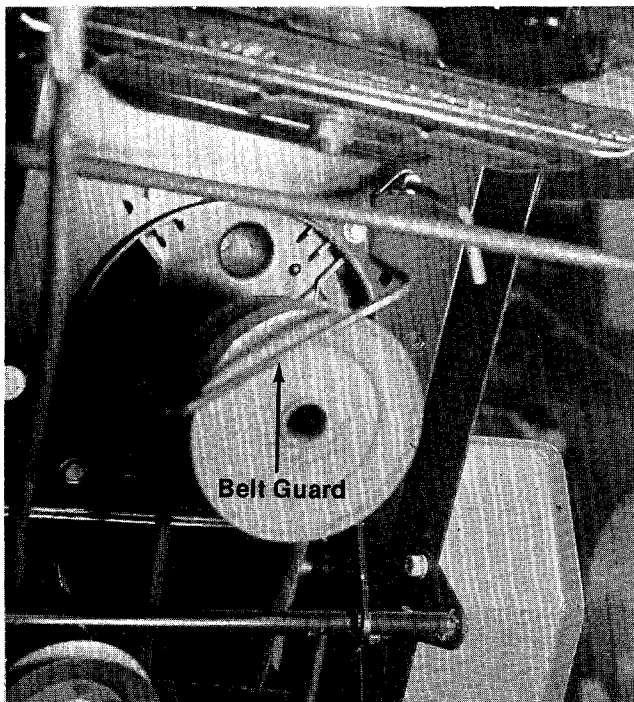

FIGURE 22
4. Swing the belt guard forward towards the front of the tractor. (See figure 22.)